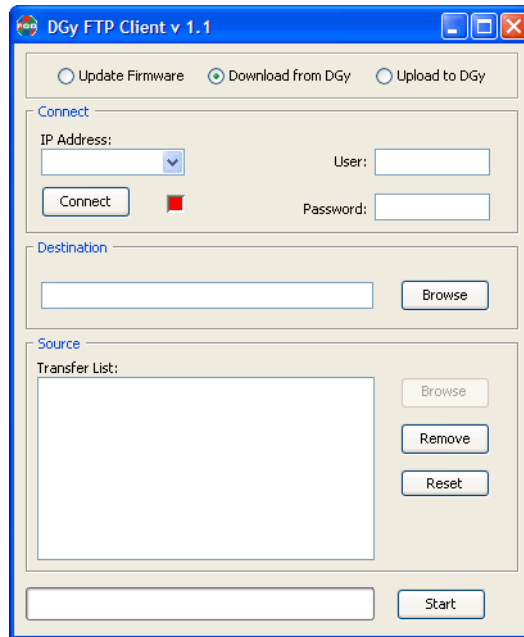

Figure 4-3 DGy FTP Client Window
3. Click the **Download from DGy** radio button to display the FTP download options as shown in Figure 4-3.